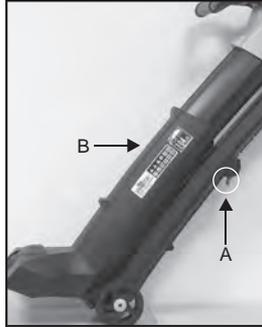

Fig. 1
1. Press the height adjusting button (A) and slide the Vacuum/Blower tube (B) to desired length. (Fig. 1) It can be adjusted up to 300mm.